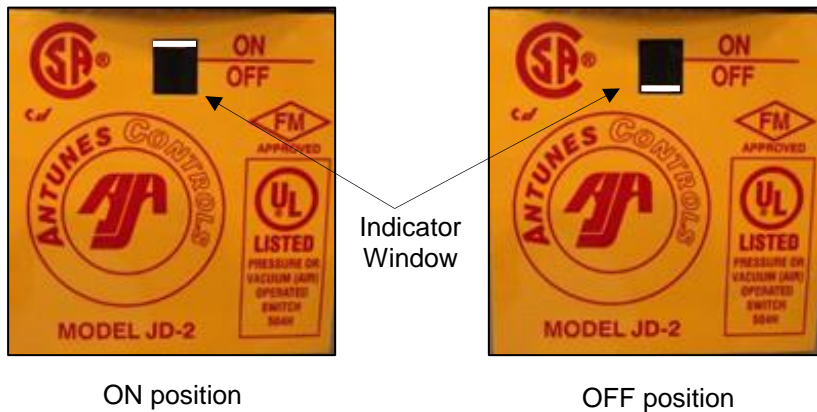

Figure 15. Airflow Switch Indicator.
4. Verify that the white line in the indicator window of the airflow switch is OFF (Figure 15).
6. Verify that the white line in the indicator window of the airflow switch is ON and steady (Figure 15).